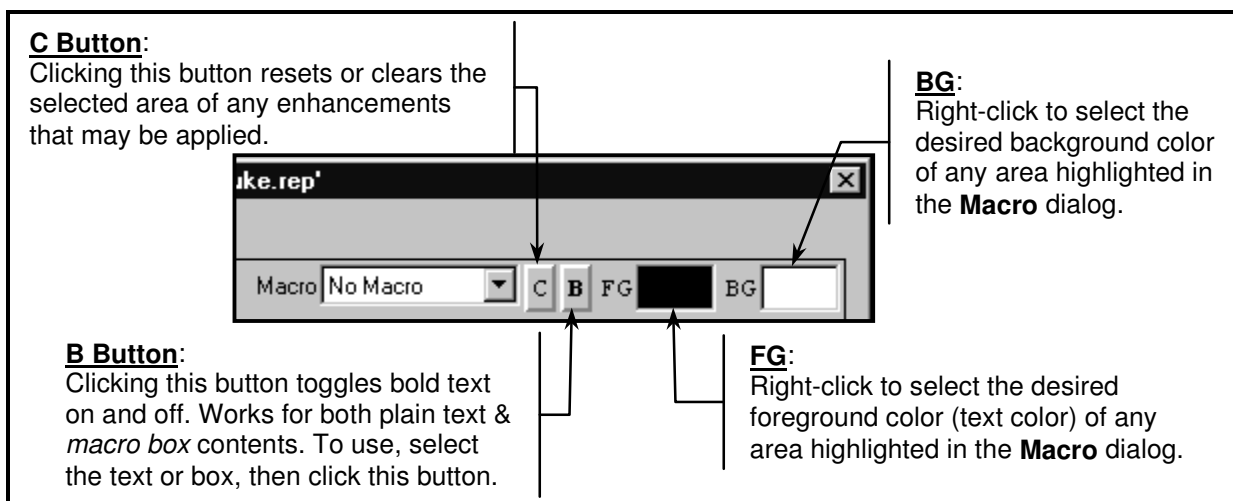

Figure 3-64. Macro Dialog - Text Enhancement Tools
The **Macro** dialog provides four (4) text enhancement tools. Review to Figure 3-64 for details about these tools and their use.